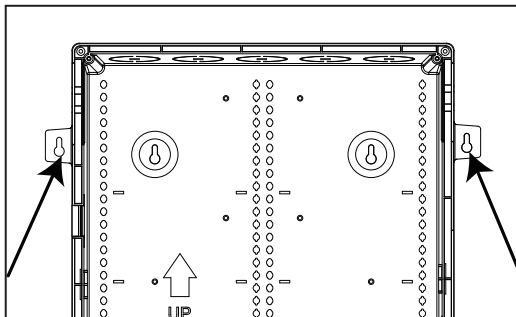

Fig. 2
2. Recessed Mounting (see Fig. 2)